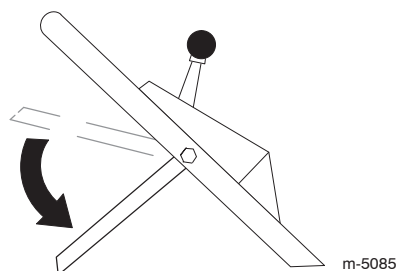

Figure 13
8. Move the blade control bail down to its lowest position (Fig. 13).
3. Push the blade control bail (Fig. 13) down to its lowest position.